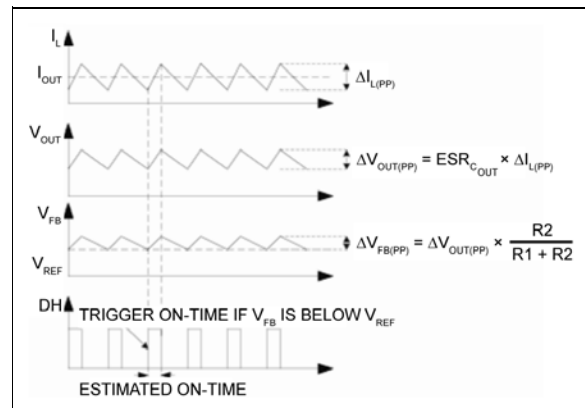

FIGURE 4-1: MIC2125/6 Control Loop Timing
The MIC2125/6 Functional Block Diagram appears on page two. The output voltage is sensed by the MIC2125/6 feedback pin (FB), and is compared to a 0.6V reference voltage (V_{REF}) at the low gain transconductance error amplifier (g_m). Figure 4-1 shows the MIC2125/6 control loop timing during steady-state operation. When the feedback voltage decreases and the amplifier output is below 0.6V, the comparator triggers and generates an ON-time period. The ON-time period is predetermined by the fixed t_{ON} estimator circuitry value from Equation 4-1:
The MIC2125/6 high-side drive circuit is designed to switch an N-Channel MOSFET. Figure 4-1 shows a bootstrap circuit, consisting of a PMOS switch and C_{BST} . This circuit supplies energy to the high-side drive circuit. Capacitor C_{BST} is charged while the low-side MOSFET is on and the voltage on the SW pin is approximately 0V. When the high-side MOSFET driver is turned on, energy from C_{BST} is used to turn the MOSFET on. If the bias current of the high-side driver is less than 10 mA, a 0.1 μF capacitor is sufficient to hold the gate voltage within minimal droop, (i.e., $\Delta_{BST} = 10 \text{ mA} \times 3.33 \mu\text{s}/0.1 \mu\text{F} = 333 \text{ mV}$). A small resistor, R_G in series with C_{BST} , can be used to slow down the turn-on time of the high-side N-channel MOSFET.